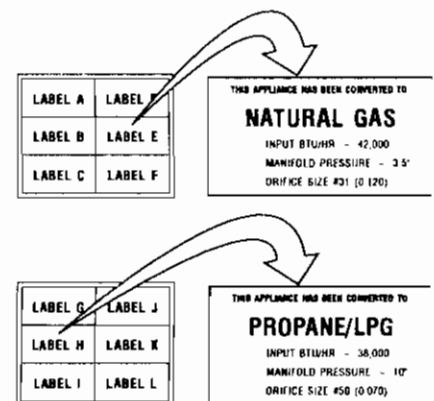

Figure 34
**Step 2.** Carefully remove the top twigs. Then remove the three (3) main logs. Exercise care as not to break or scratch the logs.
**Step 8.** Attach conversion kit label to the rating plate on the appliance; Label E for units converted to natural gas or Label H for units converted to propane (Figure 34).